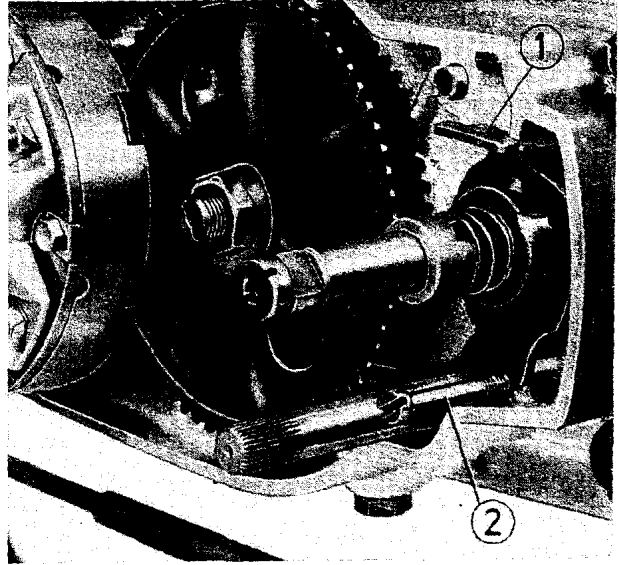

Fig. 84. Correct position of the cam plate. The casing screw (2) retains the cam plate at its lower end.
As shown in Fig. 84, the cam plate of the positive tracking is put with its nose (1) into the casing.
For the sake of clearness, the clutch cover is not shown in Fig. 84; this illustration does not show the mounted state.